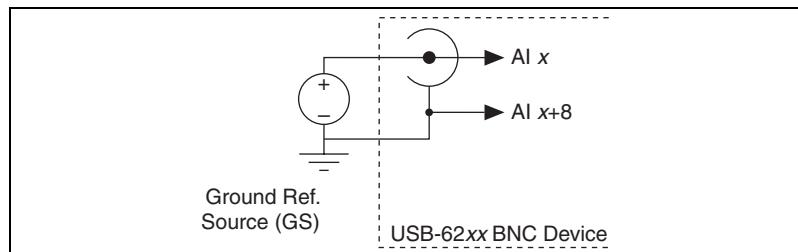

Figure A-22. Single-Ended Channels
- **Single-Ended Mode**—For each BNC connector that you use for two single-ended channels, set the source type switch to the GS position. This setting disconnects the built-in ground reference resistor from the negative terminal of the BNC connector, allowing the connector to be used as a single-ended channel, as shown in Figure A-22.